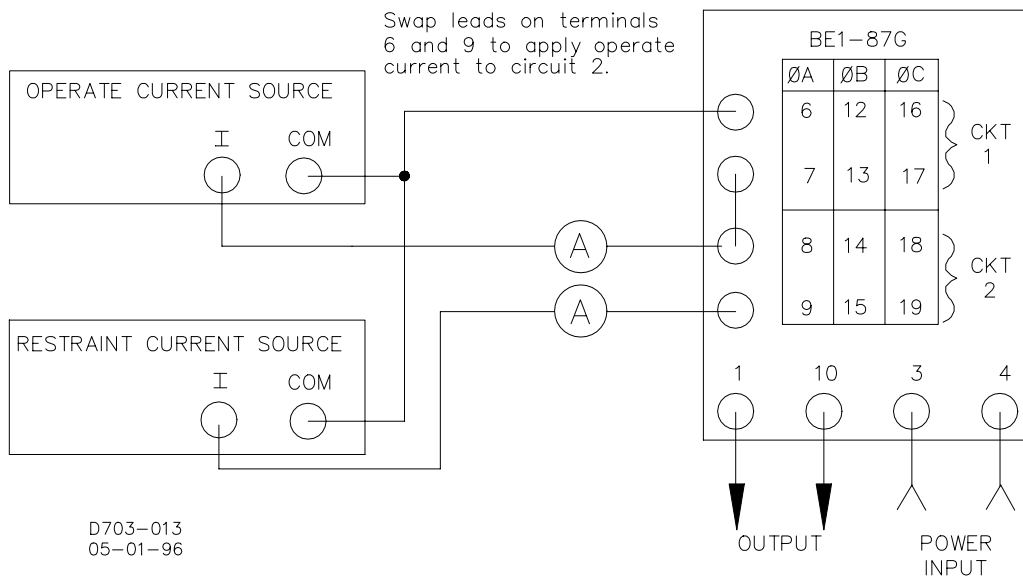

Figure 5-1. Operational Test Setup
The following procedure verifies operation of the relay. Terminal numbers are referenced to the operational test setup in Figure 5-1. Three-phase units may be tested one phase at a time because all phases are OR'd together at the output.
- Step 1. Connect the test setup for phase A in accordance with Figure 5-1.